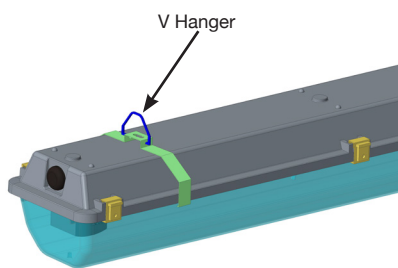

FIG 2
2. Snap the two “V” hangers into the mounting brackets (Fig 2).